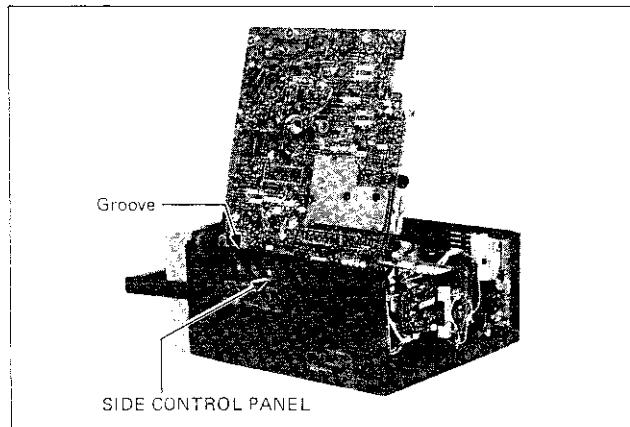

Fig. 2-2
2. After lifting and pulling both the colour TV P.C. board and the side control panel, turn the unit upsidedown as shown in Fig. 2-2.
3. Stand the unit in a groove of the side control panel as shown in Fig. 2-2.